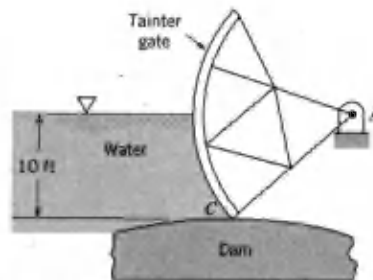

FIGURE P2.12R
2.12R (Force on curved surface) A gate in the form of a partial cylindrical surface (called a *Tainter gate*) holds back water on top of a dam as shown in Fig. P2.12R. The radius of the surface is 22 ft, and its length is 36 ft. The gate can pivot about point A, and the pivot point is 10 ft above the seat, C. Determine the magnitude of the resultant water force on the gate. Will the resultant pass through the pivot? Explain.